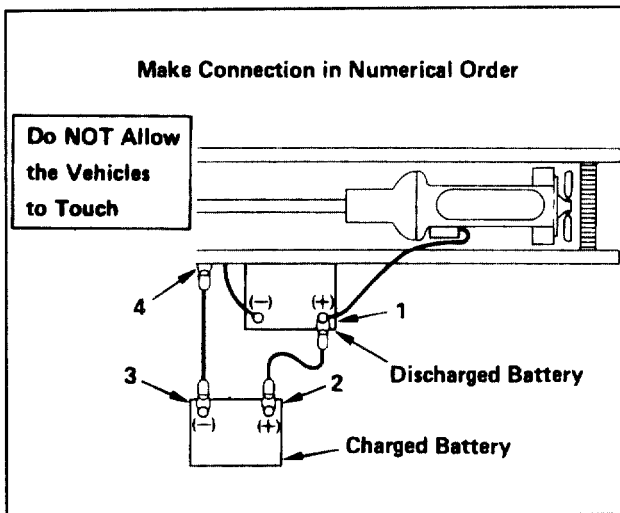

Figure 7 - Jump Starting Connections
3. Making sure the cable clamps do not touch any other metal parts, clamp one end of the first booster cable to the positive (+) terminal on one battery, and the other end to the positive terminal on the other battery (figure 7). Never connect (+) to (-).